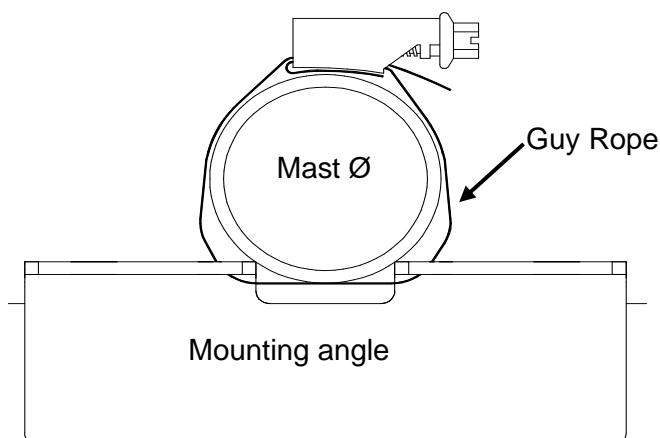

Figure 9: Mast with guy rope
3. Put the free end of the prepared clamp around the mast and the mounting angle, and screw it on (see **Figure 9: Mast with guy rope**)